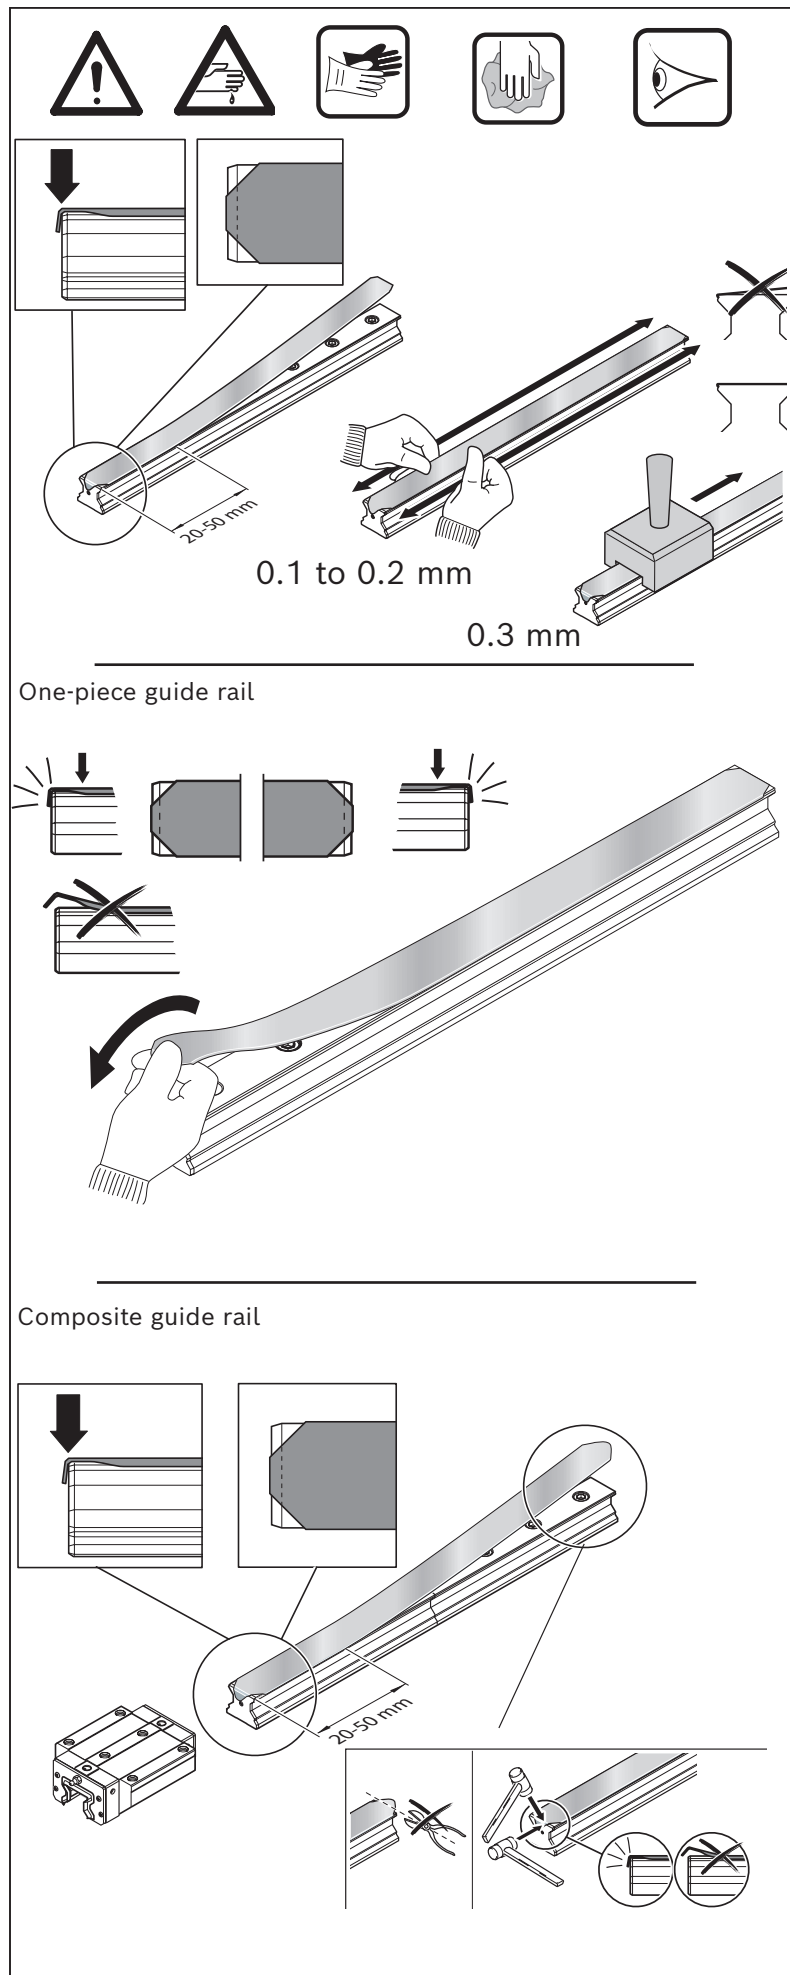

Fig. 35: Mounting Rail Seal
- ▶ If necessary, shorten the end of the seal just enough to expose the tapped hole on the rail end face ➡ Fig. 35